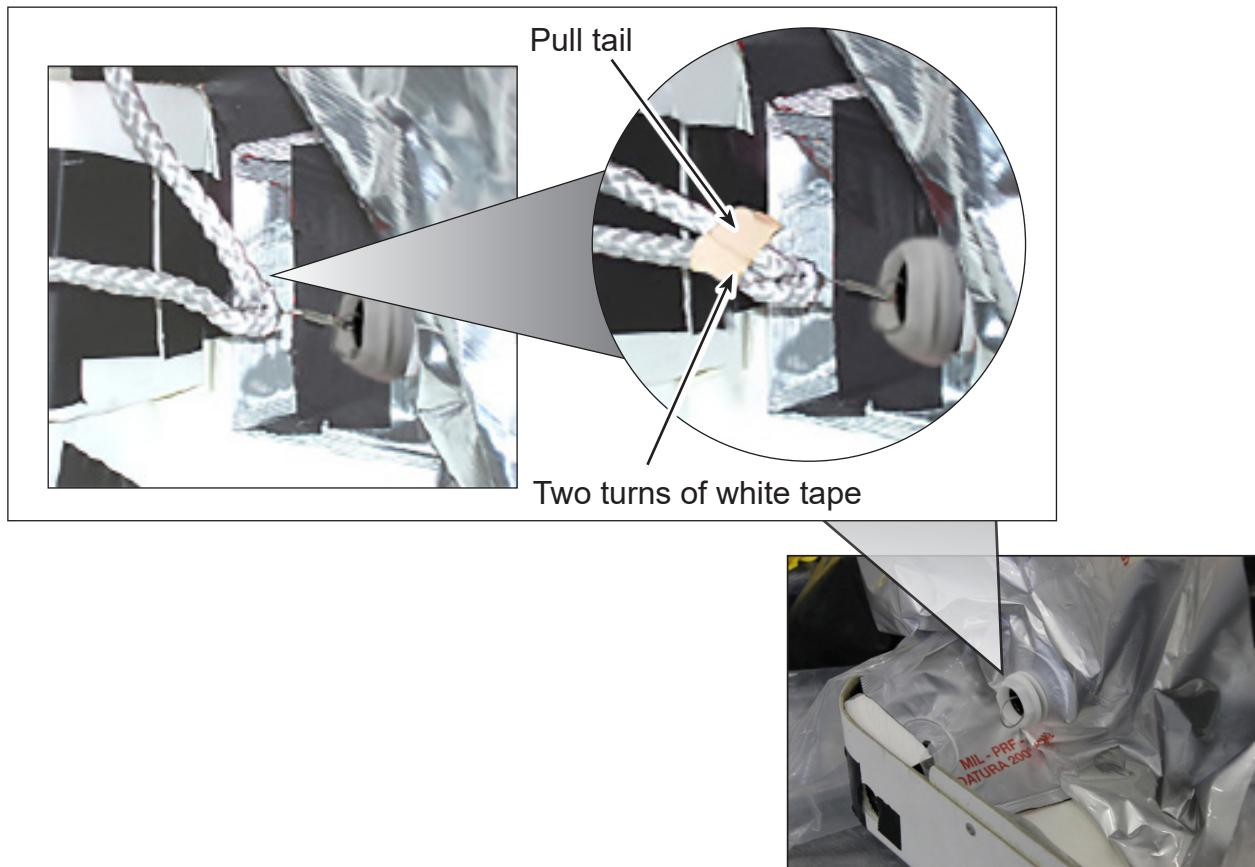

FIGURE 899B
Refer to **Figure 899B**.
- 9.25 Lightly tug on the painter cord to make sure that the painter cord is firmly attached to the operating head. Refer to **Figure 899B**.
- 9.26 Apply two turns of white tape around the painter cord. Refer to **Figure 899B**.